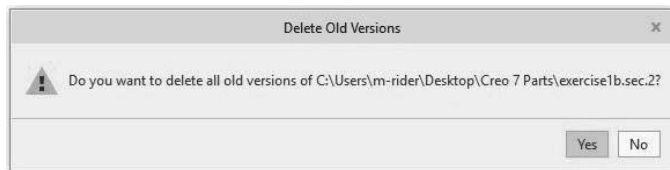

Figure 3-67 Accept Command Actions
Step 34: *Pick Yes* to remove all previously saved versions of this file in your working directory (Figure 3-67).